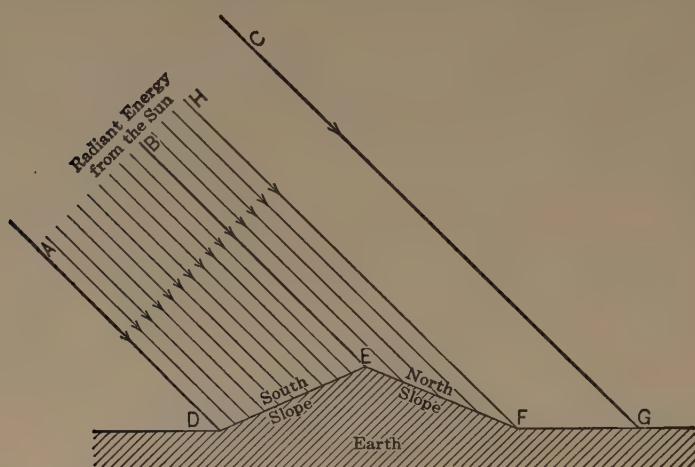

FIG. 240.—A southern slope intercepts more of the sun's rays than a northern slope of the same area.
**The warm southern slope.** Since the sun's rays are brought to the earth in parallel lines, the angle at which they meet the earth determines the heating effect. It is common knowledge that a southern slope is warmer than a northern slope, and therefore more desirable for an early garden. In Fig. 240, *AB* and *BC* are equal beams of radiation from the sun. Study the diagram until you can explain it. The air